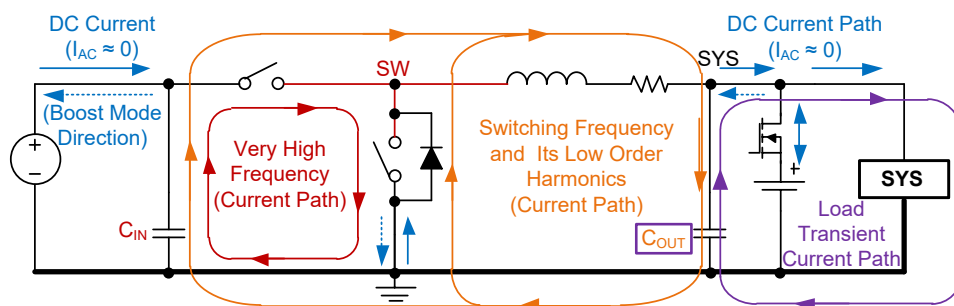

Figure 20. The Paths and Loops Carrying High Frequency, DC Currents and Very High Frequency (for Layout Design Consideration)
The switching node (SW) creates very high frequency noises several times higher than f_{SW} (1.5MHz) due to sharp rise and fall times of the voltage and current in the switches. To reduce the ringing issues and noise generation designing a proper layout is important to minimize the current path impedance and loop area. A graphical guideline for the current loops and their frequency content is provided in Figure 20. The following considerations can help making a better layout.